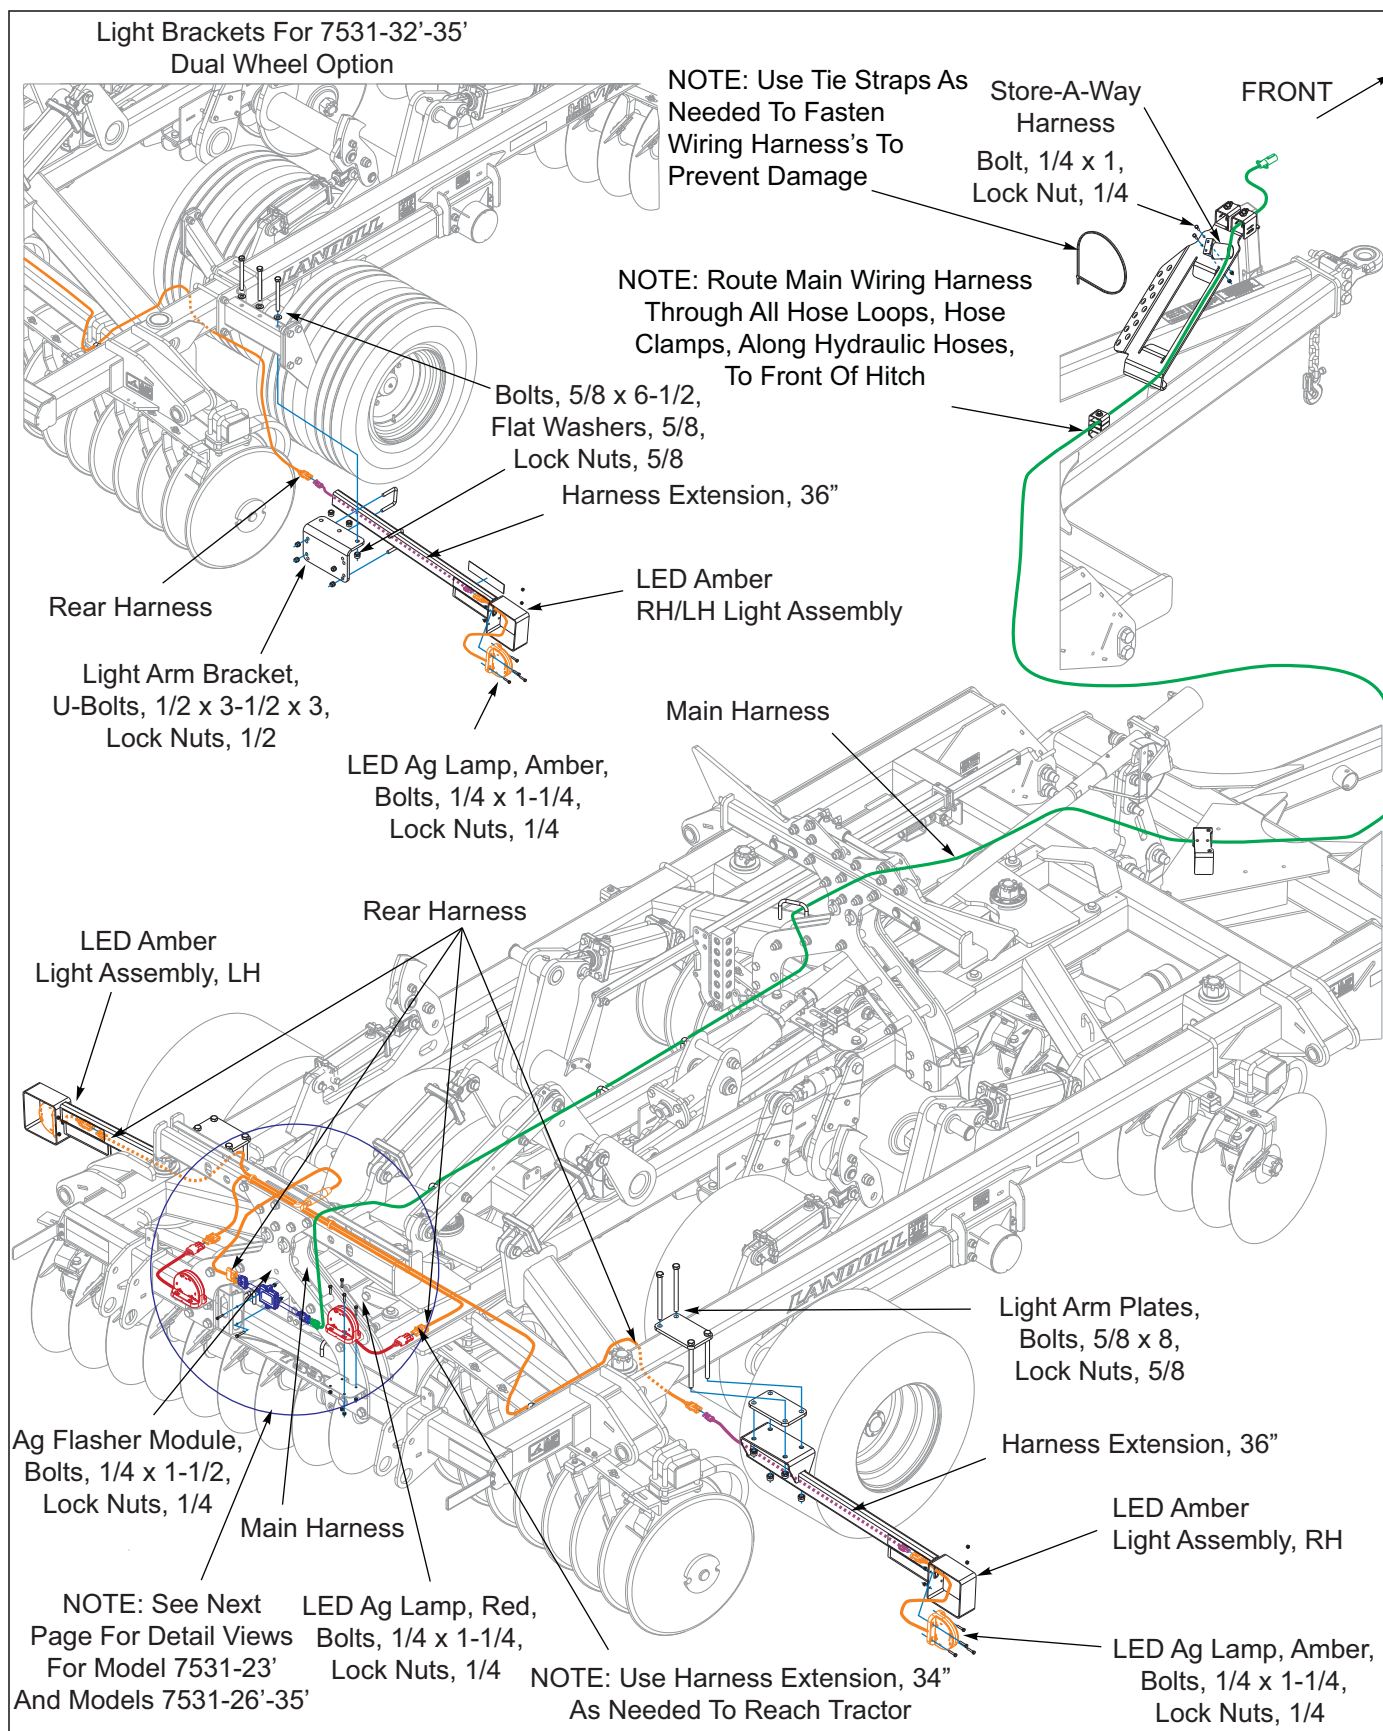

Figure 3-52: Electrical Assembly W/LED Lights (Page 1 of 5)
1. Attach left and right light brackets w/ref to center frame using light arm plates, 5/8 x 8 bolts **See Figure 3-52** and 5/8 lock nuts. The yellow reflectors go to the front side.
2. **Models 7531-32'/35' dual wheel option**, attach the RH/LH light assemblies to outer dual wheel scraper tube as shown **See Figure 3-52**, (Detail View) with light arm bracket, 5/8 x 6-1/2 bolts, 5/8 flat washers and 5/8 lock nuts. Attach RH/LH light assemblies to front side of light arm bracket with 1/2 x 3-1/2 x 3 u-bolts and 1/2 lock nuts. The yellow reflectors go to the front side.
9. Attach ag amber single LED lamps to light brackets using 1/4 x 1-1/4 bolts and 1/4 lock nuts **See Figure 3-52**.